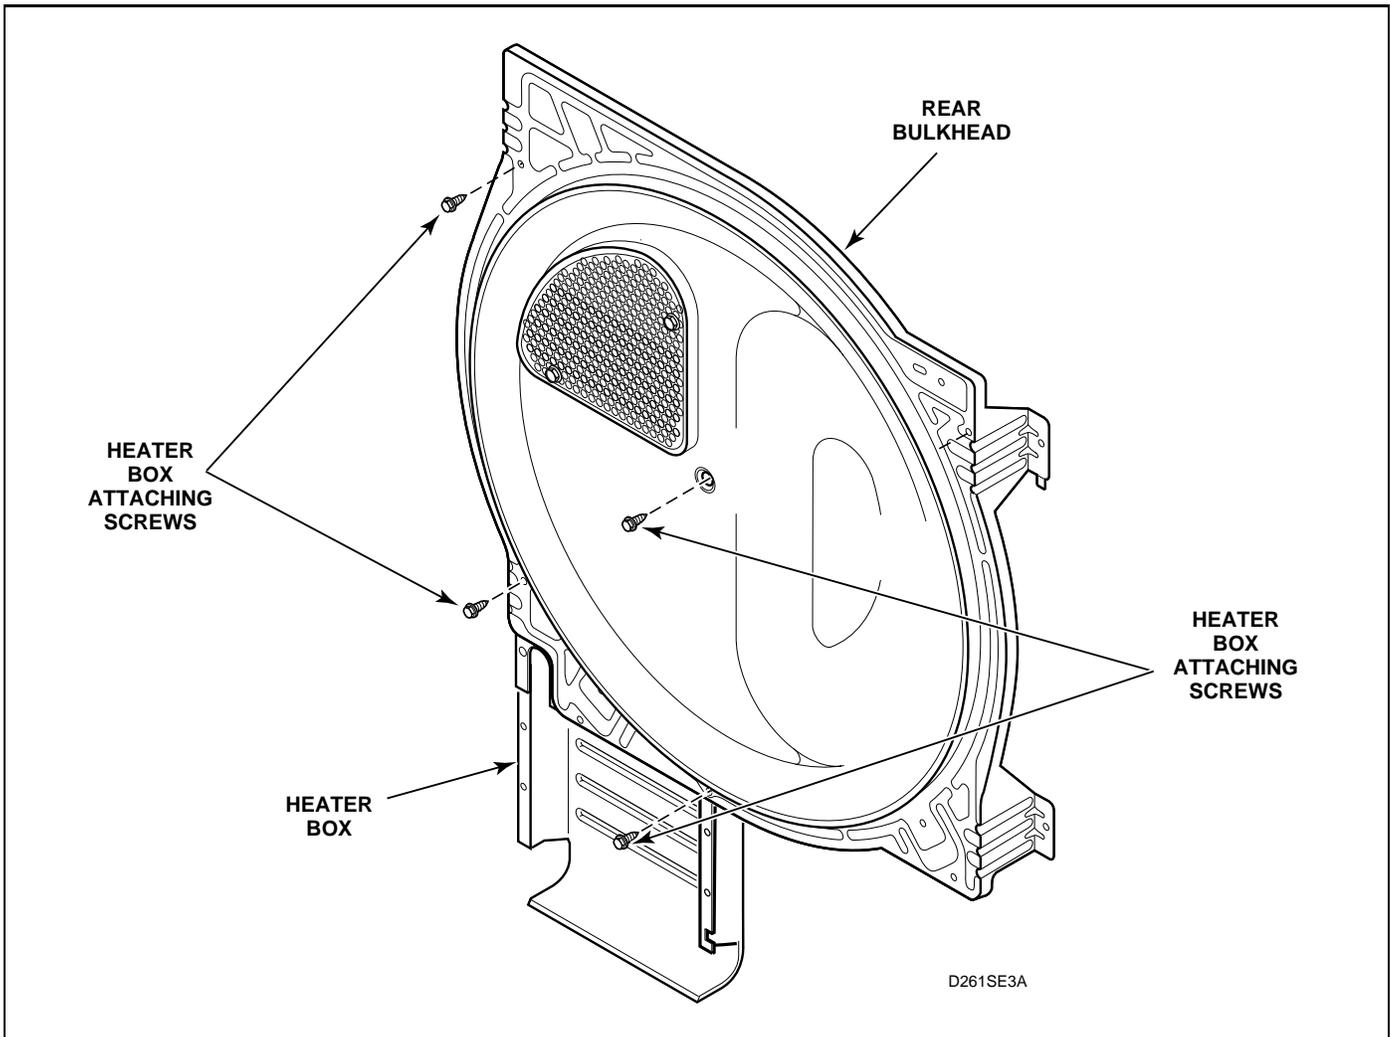

Figure 54
- (5.) Remove heater box from rear bulkhead. See *Figure 54*.